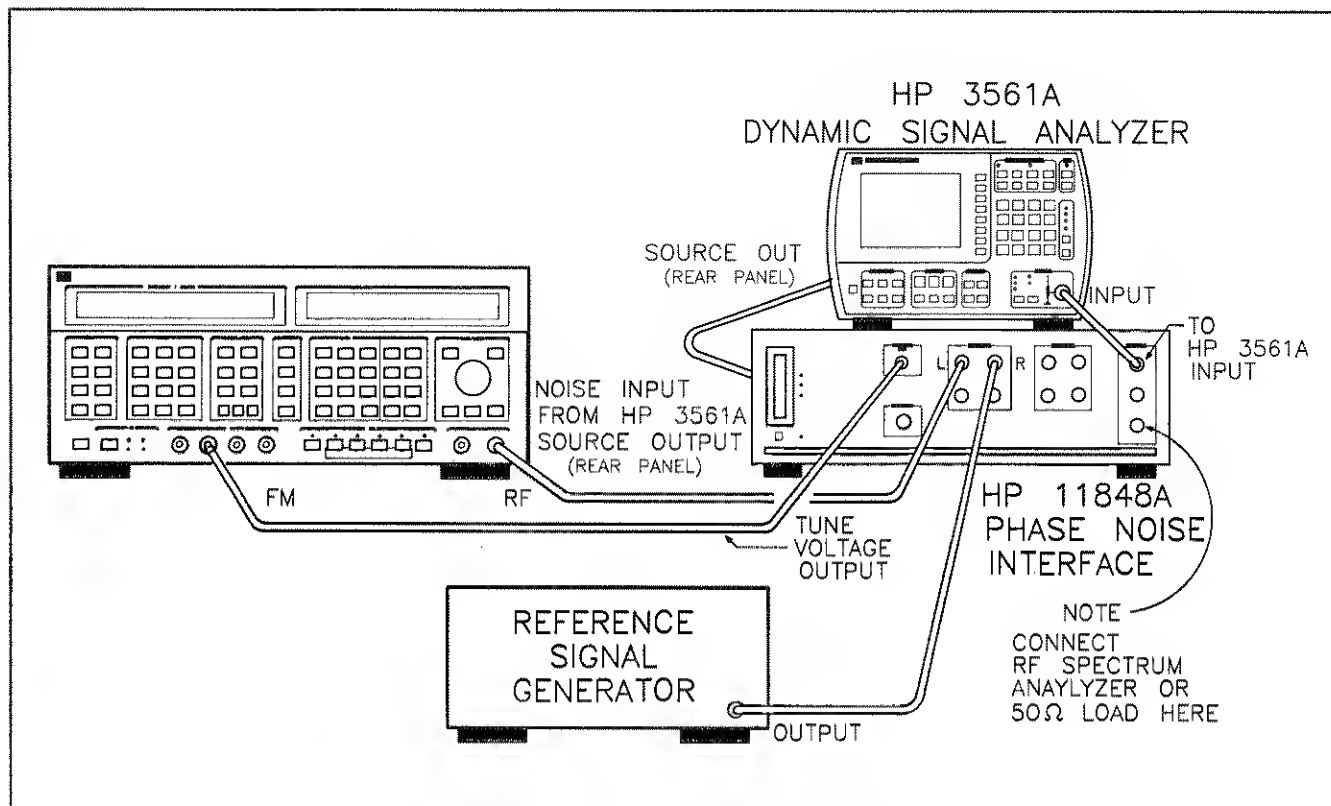

Figure 3-7. SSB Phase Noise Test Setup
1. Connect the equipment as shown in figure 3-7.